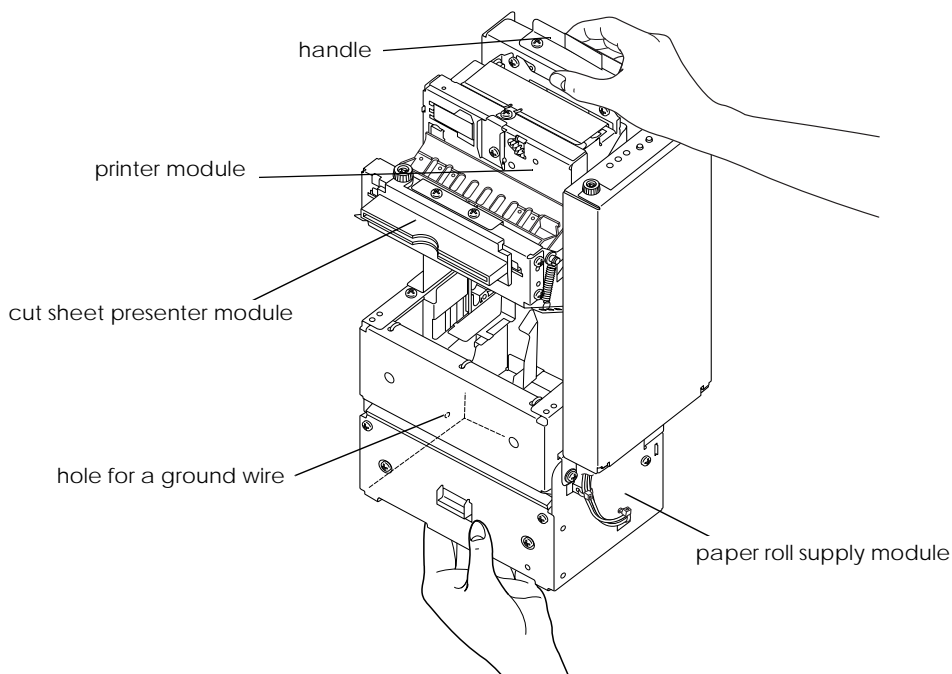

Figure 3-1 Correct way of holding the EU-T432
- ❑ Make sure to ground the unit by using the hole for a ground wire on the side of the frame. (See Figure 3-1 for the position.)